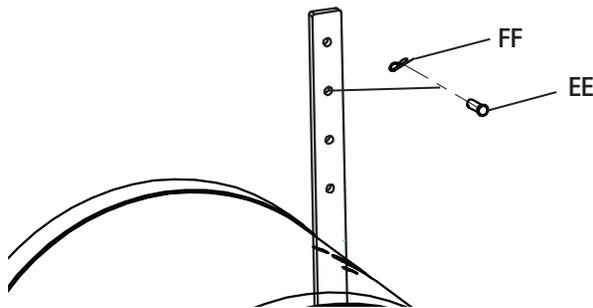

Figure 1-10
- Adjust the depth regulator lever to desired tilling depth. Insert the clevis (EE) and cotter pin (FF) to secure depth regulator to desired depth. See Figure 1-10.